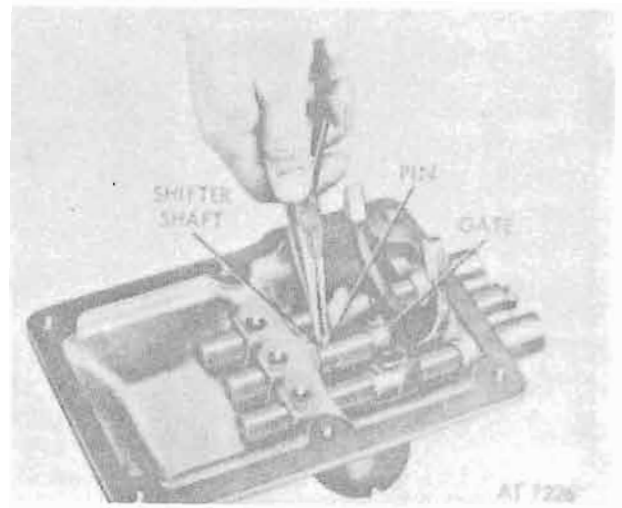

Figure 8-93. Shifter shaft interlock pin.
f. Remove interlock pin from shifter shaft (fig. 8-93).
g. Drive shifter shaft from housing and remove gate (fig. 8-93).
k. Depress detent spring and ball as described in *e* above. Slide third- and fourth-speed shifter shaft rearward and install interlock pin. Refer to figure 8-93.